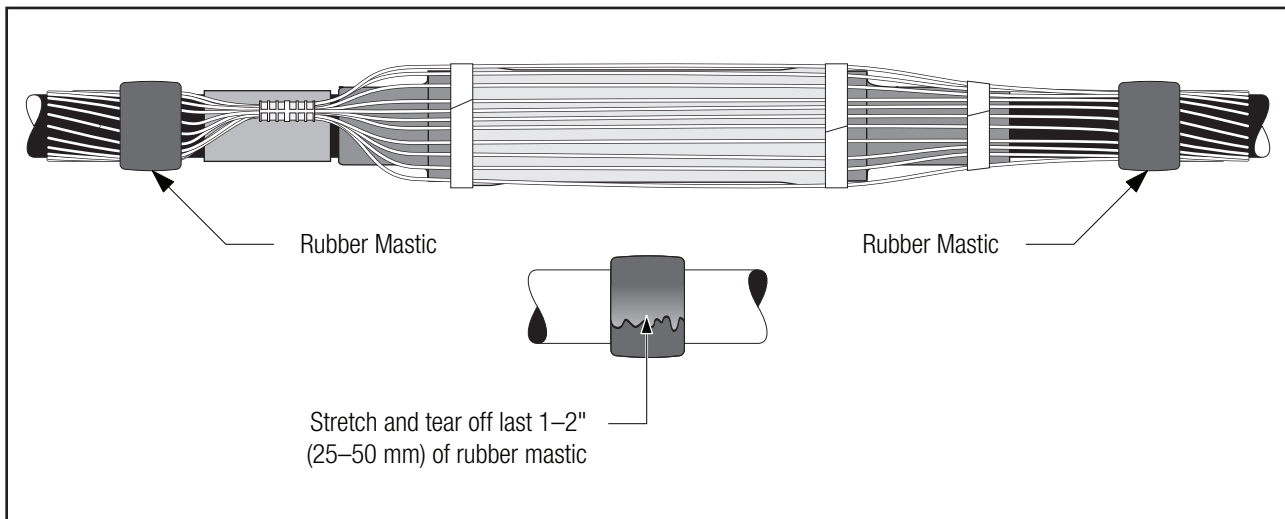

Figure 34
- 8.3 Apply one roll of slightly stretched rubber mastic over each mastic seal (tacky side toward cable). Stretch and tear off the end of the rubber mastic as shown (*Figure 34*).